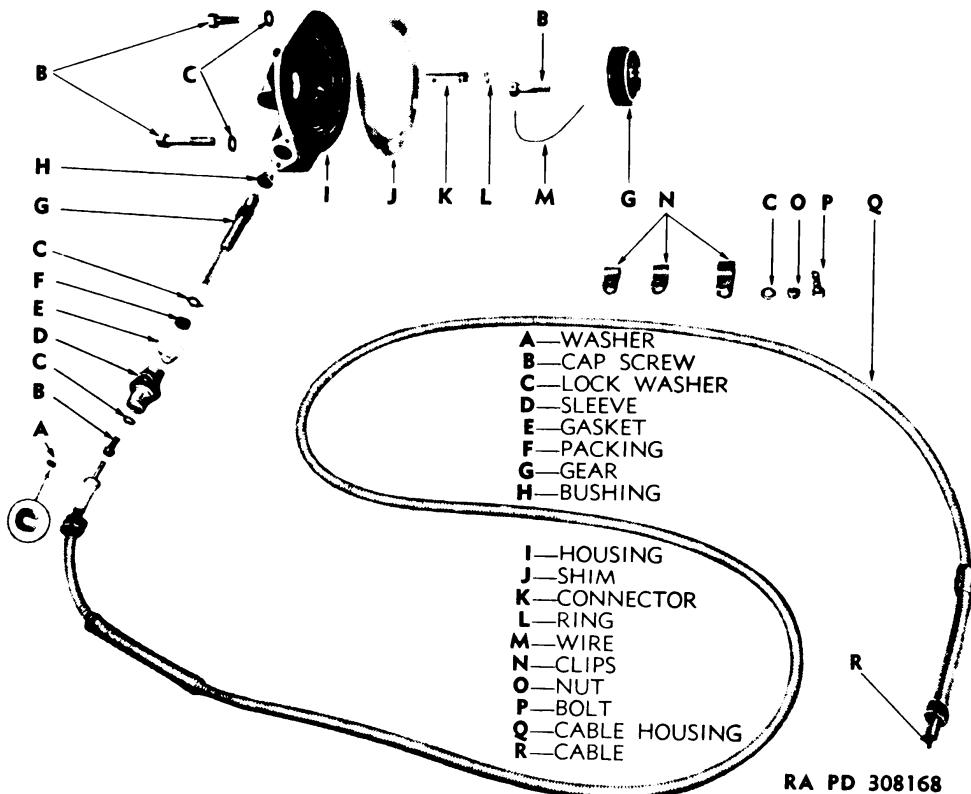

Figure 66 — Speedometer Drive Assembly Disassembled
b. **Install Speedometer Drive Assembly.** A small oil piping connector is pressed into the speedometer drive housing and has a small sealing ring similar to a piston ring in a groove towards inner end of shaft (fig. 66). When drive assembly is installed, the end of connector and sealing ring enters the bore of speedometer drive gear. The sealing ring must have a gap of 0.002 to 0.003 inch and fit freely in groove, and shaft must slip freely into gear to prevent gear from freezing to shaft during operation. Attach housing to transmission case with six cap screws with lock washers (fig. 17).
a. **Assembly** (fig. 66). Press new bushing for shorter end of speedometer drive shaft into housing, also press oil piping connector into center of housing with end of connector flush with outer side of housing. Slip drive gear onto other end of connector over sealing ring to check for 0.002- to 0.003-inch gap in sealing ring. Insert shorter end of driven gear shaft into bushing installed in housing. Install new packing and washer in drive sleeve, slip new sleeve gasket over lower end of sleeve, then install sleeve over driven gear shaft and into housing. Attach with two cap screws and lock washers. Lubricate flexible shaft, insert shaft through flexible housing, and slip retaining washer or washers on ends of shaft.